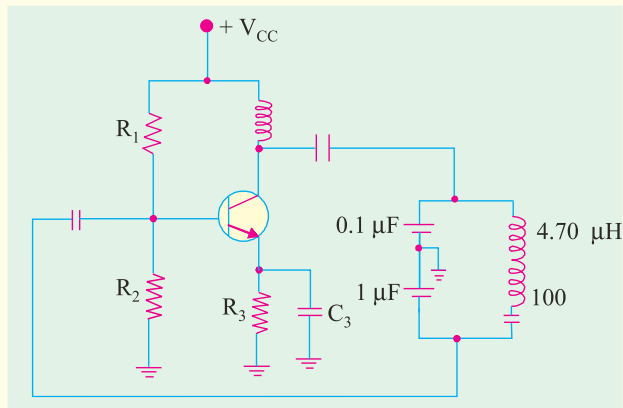

Fig. 65.39
10. Calculate the frequency of oscillations for the Clapp oscillator shown in Fig. 65.39. (734.5 kHz)